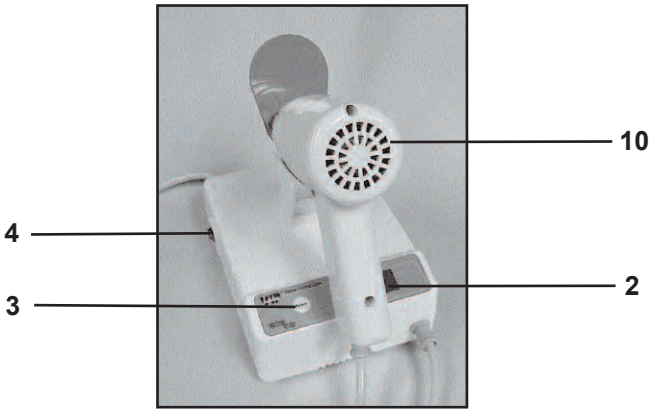

FIG. 1A, FRONT VIEW
- G. Place the handpiece in the holder as shown. (See Fig. 1A, page 2.)
- A. Turn unit on by switching the AC power switch to "1". (See Fig. 1A, page 2.)
- B. The select switch allows the user to progress through the selection menu in the following order: L03, H10, H20, H30, H40 or the two orthodontic settings of A32 and C32. (See Fig. 1A, page 2 and Section 7 above.)